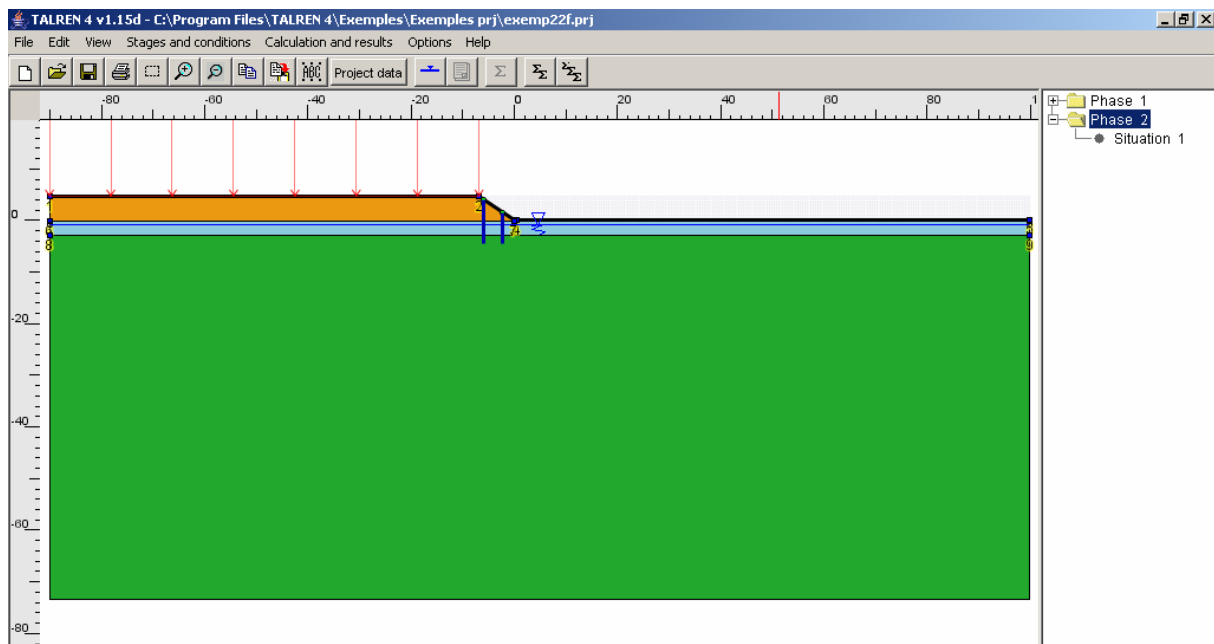

Figure 56: *examp22e.prj* file, definition of stage 2 (with piles)
- The other stage (now stage 2) remains unchanged after insertion of stage 1: select it to display the corresponding graphical view: the piles and load are active (Figure 56), and the water level is still defined.